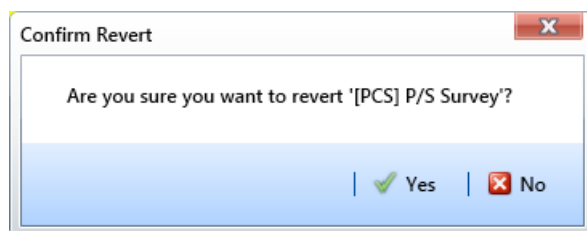

Figure 15-2. Confirm Revert
- Click  **Revert**, then click  **Yes** when the *Confirm Revert* message displays (Figure 15-2).